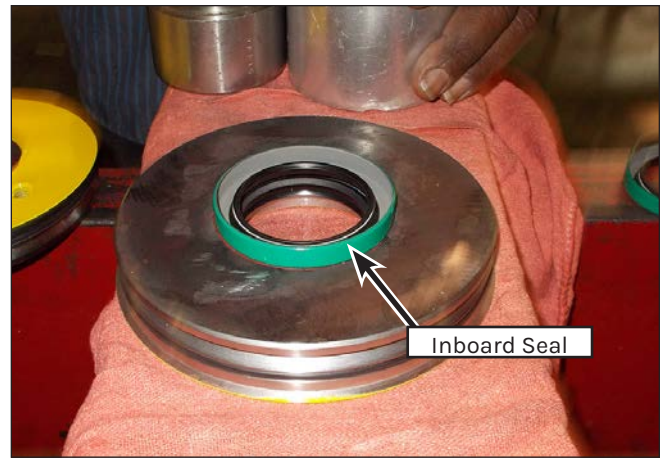

Figure 151: Inboard Seal Installation.
3. Place the green inboard seal into position on top of the outboard seal and orient the seal (Figure 151). Press the seal into the plate until it is flush with the face of the plate. Use caution to avoid damaging the seal.